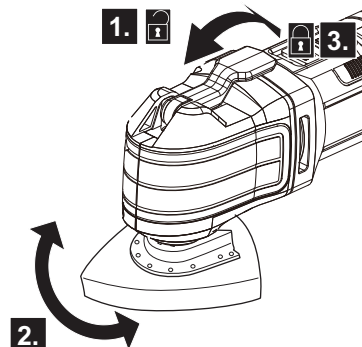

Fig. 3
- > Open the SDS tool holder (6) by opening the SDS clamping lever (1) fully (Fig. 3, step 1).
- > Disengage and adjust the sanding base plate (7) to the desired position (Fig. 3, step 2). Make sure the pins of SDS tool holder (6) fit properly in the grooves on the back of the sanding base plate (7).
- > Fix the sanding base plate (7) by closing the SDS clamping lever (1) fully (Fig. 3, step 3).
- > Check if the sanding base plate (7) is reliably clamped and make adjustment if necessary.